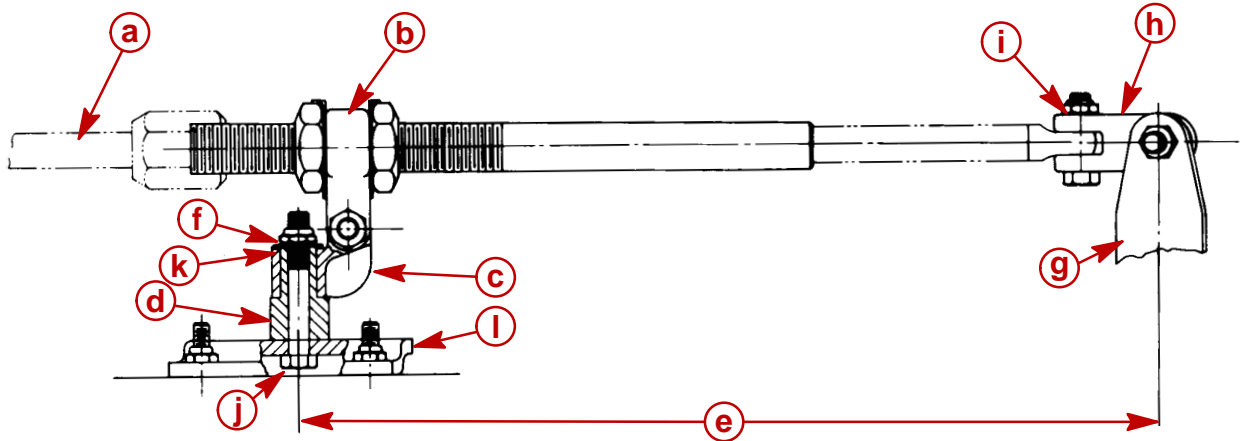
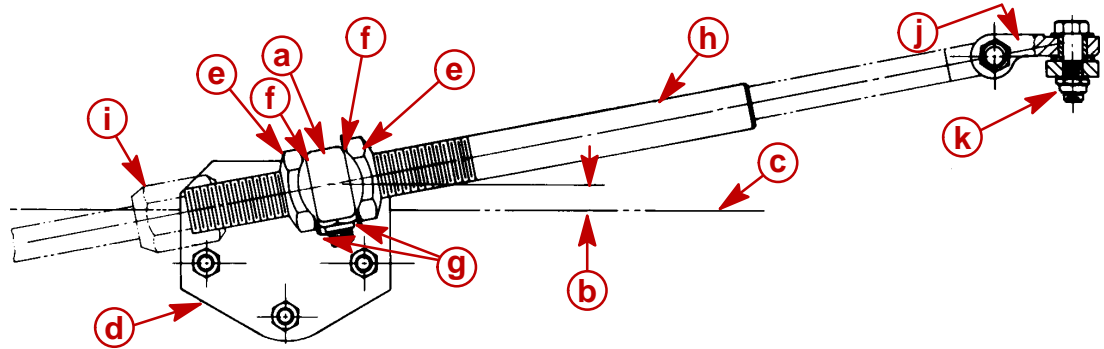

Figure 1
Figure 3
1. Lubricate both holes in pivot block (Figure 1) with Quicksilver 2-4-C w/Teflon.
2. Place pivot block on pivot spacer and secure to transom bracket with 3/8 in. x 2-1/2 in. (9.5 mm x 63.5 mm) bolt, flat washer and locknut, as shown in Figure 1. Torque locknut to 20 lb. ft. (27 Nm).
- Place Ride-Guide yoke on pivot block and secure with 7/16 in. x 1-3/4 in. (11.1 mm x 44.5 mm) bolt and locknut, as shown in Figures 1 and 2. Torque locknut to 10 lb. ft. (13.5 Nm), **then back off 1/4-turn.**
- Install one cable tube jam nut onto steering cable tube. Place tab washer over Ride-Guide yoke, then insert cable tube thru tab washer and yoke. Install second cable tube jam nut onto cable tube but do not tighten at this time. (Figure 3)
- Determine centerline of outboard, then measure 15 in. (38.1 cm) over from this centerline and draw a vertical line on transom. (Figure 1)
- b. Position attaching kit on transom so that **transom bracket is centered on the 15 in. (38.1 mm)** (Figure 1) at a height where the **center of Ride-Guide yoke is even with, or not more than 1/2 in. (12.7 mm)** above top edge of transom. (Figure 3)
2. Install steering cable thru steering cable tube and secure to cable tube with cable attaching nut. (Figure 3) Do not tighten cable attaching nut at this time.
4. Adjust 2 large jam nuts on cable tube of attaching kit, so that **steering wheel** is in normal straight-driving position with outboard in straight-running position. Torque each jam nut to 35 lb. ft. (47.5 Nm), then bend a side of tab washer against flat of each jam nut. (Figure 3)
5. Torque Ride-Guide cable attaching nut (which secures cable to guide tube) to 35 lb. ft. (47.5 Nm). (Figure 3)
4. Check steering system fasteners (at intervals specified, preceding) to be sure that they are torqued to correct specifications. (Figures 1, 2 and 3)